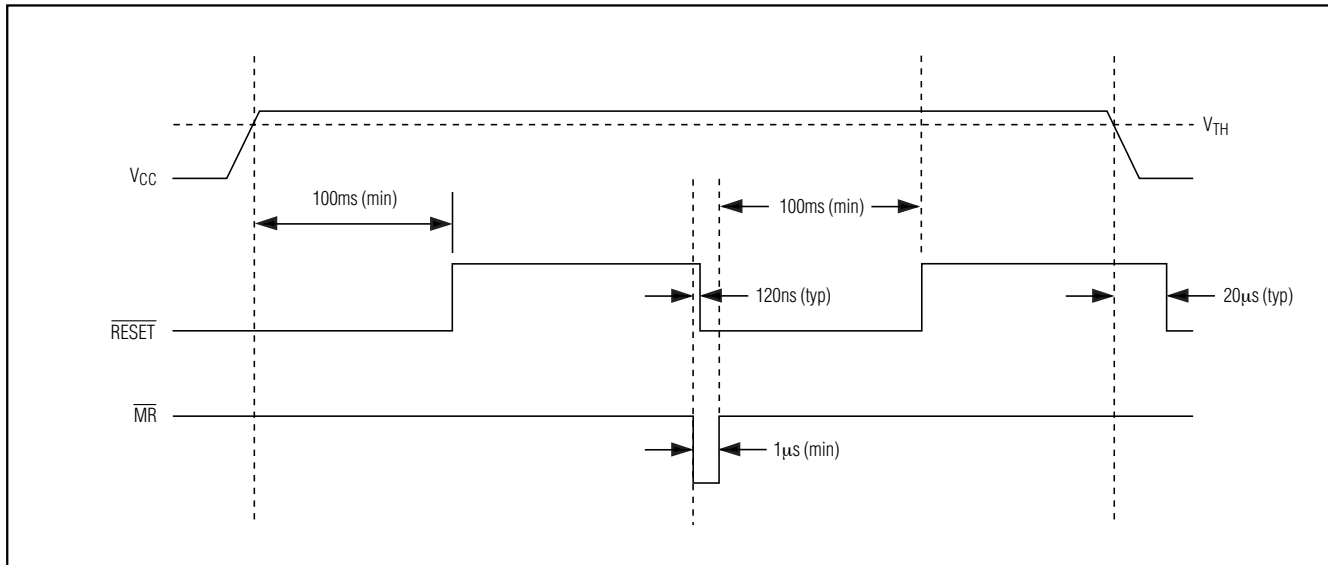

Figure 5. $\overline{\text{RESET}}$ Timing Relationship
falls below the preset threshold or when the manual reset input (MR) is asserted. The $\overline{\text{RESET}}$ output remains asserted for at least 100ms after V_{CC} has risen above the reset threshold and $\overline{\text{MR}}$ is deasserted (Figure 5). For noisy environments, bypass V_{CC} with a 500pF (min) capacitor to ensure correct operation.
Many μ P-based products require manual reset capability to allow an operator or external logic circuitry to initiate a reset. The manual reset input (MR) can connect directly to a switch without an external pullup resistor or debouncing network. $\overline{\text{MR}}$ is internally pulled up to V_{CC} and, therefore, can be left unconnected if unused. $\overline{\text{MR}}$ is designed to reject fast, negative-going transients (typically 100ns pulses), and it must be held low for a minimum of 1 μ s to assert the reset output (Figure 5). A 0.1 μ F capacitor from $\overline{\text{MR}}$ to ground provides additional noise immunity. After $\overline{\text{MR}}$ transitions from low to high, reset will remain asserted for the duration of the reset timeout period, at least 100ms.